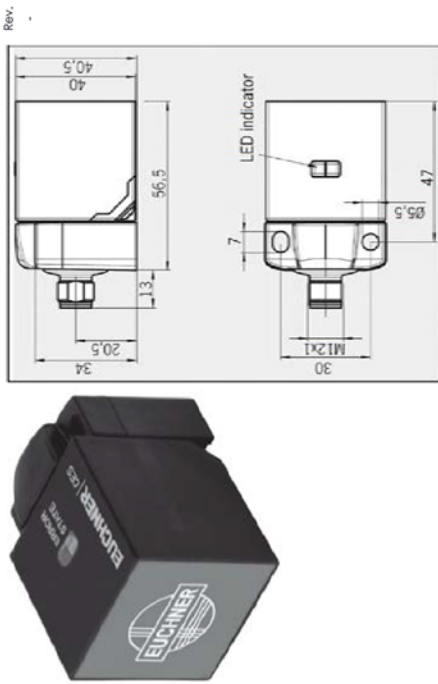

Figure 1: Euchner_CES-AP-C01 Series Safety Sensor
- The 9121-DL9-M module requires the use of a two channel, PLe rated contactless Safety Sensor, specifically, Euchner CES-AP-C01-CH-SB-106798 or CES-I-AP-M-C04-USB-117324 (reference Figures 1 and 2). The Safety Sensor is not included with the DL9 but is available from ATI. The Safety Sensor is powered by 24V US1 current limited (24V_TH) Profinet power.